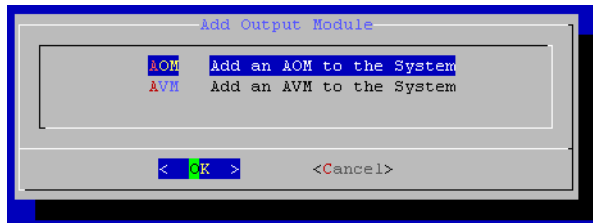

FIG. 19 Add Output Module
1. Select **Add**, then select the type of module (*MAX-AOM* or *MAX-AVM*) you are adding (FIG. 19).